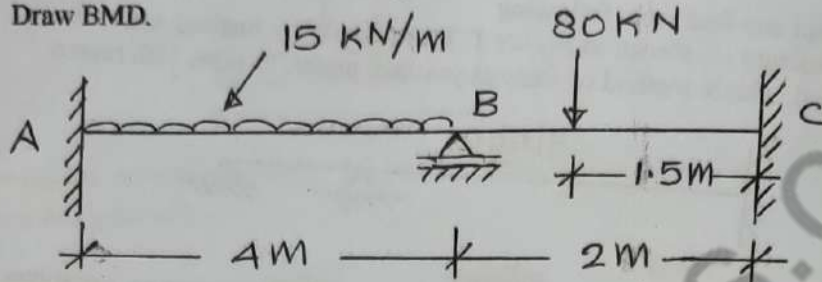

Figure 5
- b) Analyse the beam shown in Figure 5 using **Slope Deflection Method**. Draw BMD.